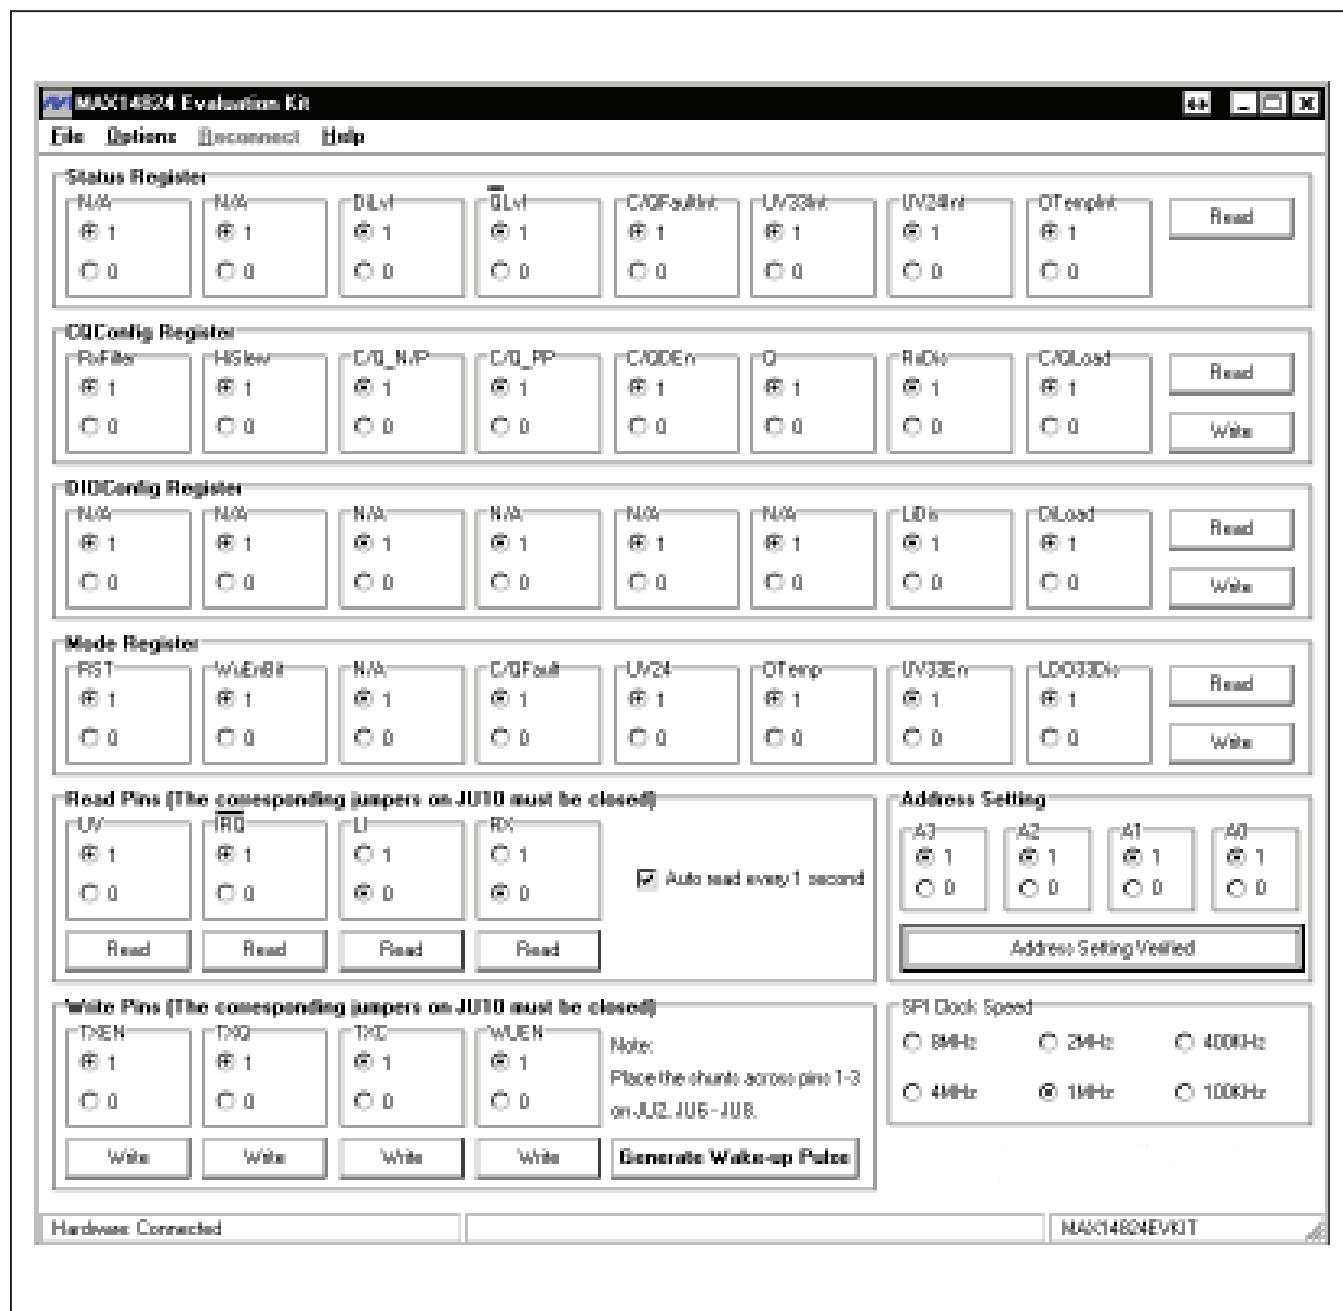
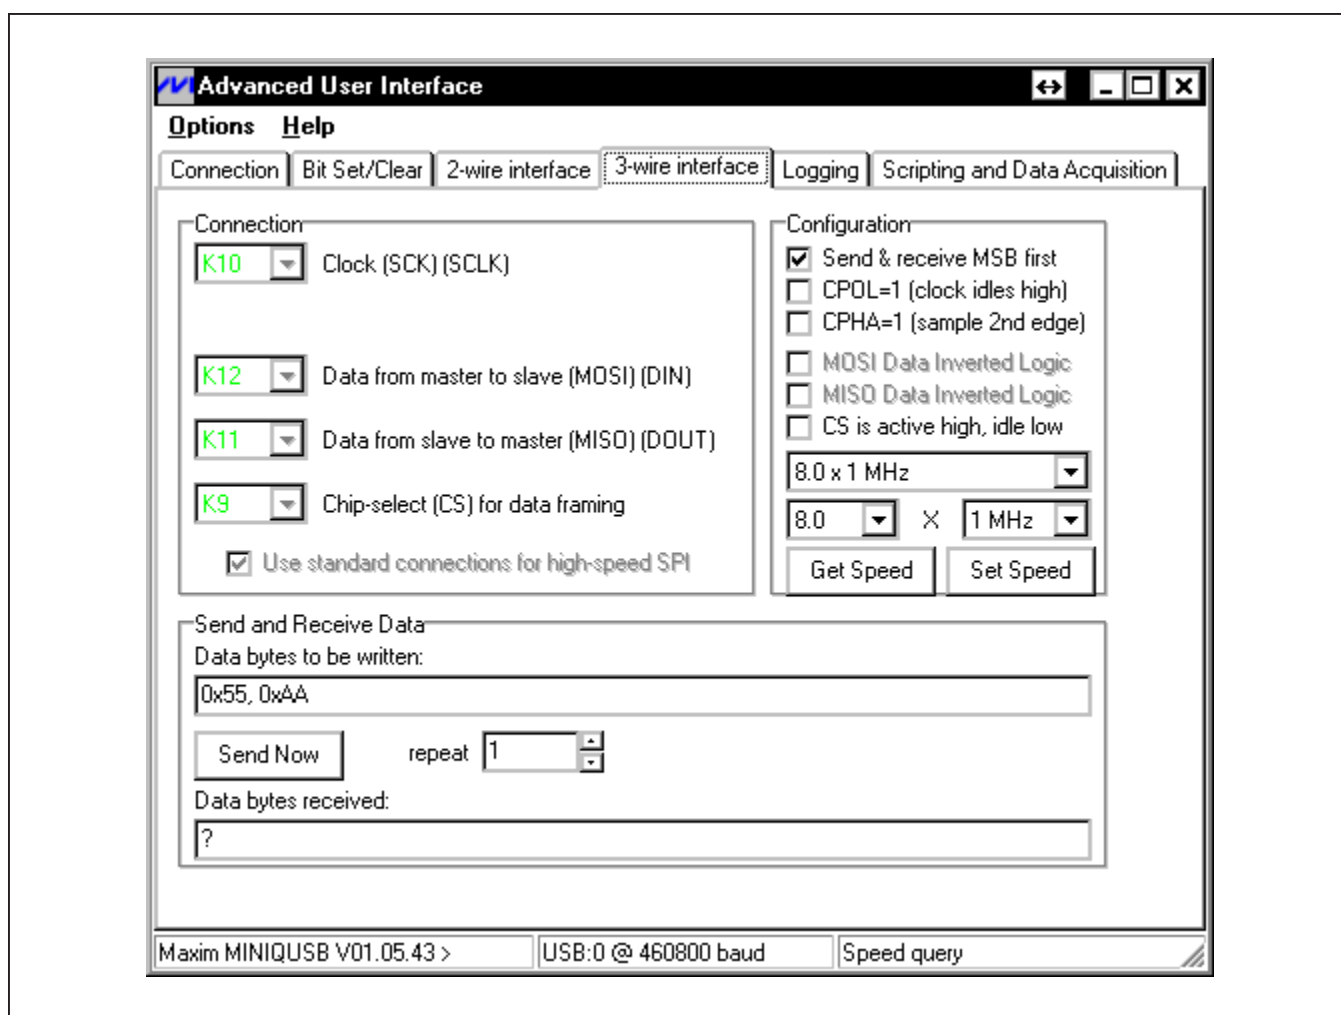

Figure 2. MAX14824 EV Kit Software Main Window
Figure 3. MAX14824 EV Kit Software Advanced User Interface Window
- 7) The EV kit software main window appears, as shown in Figure 2.
The main window of the evaluation software (Figure 2) displays the SPI registers and the device pins that are connected to the on-board MAXQ2000 microcontroller. The user can send read or write SPI commands to the device, configure the logic levels of the device input pins, and read back the logic levels of the device output pins.
There are two methods for communicating with the device. The first is through the window shown in Figure 2. The second is through the **Advanced User Interface** window shown in Figure 3. The **Advanced User Interface** window becomes available by selecting the **Options | Interface (Advanced User)** menu item and allows execution of serial commands manually.